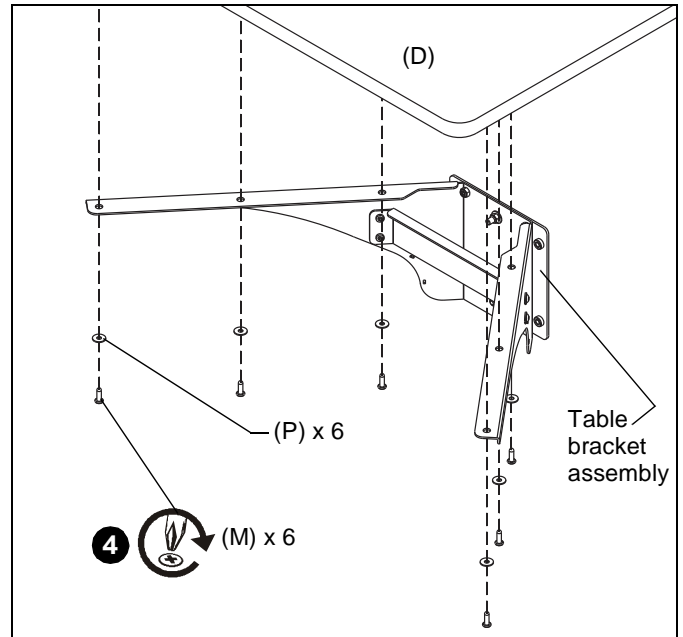

Figure 3
4. Fasten the table top (D) to the table bracket assembly using six #10 x 5/8" Phillips wood screws (M) and six #10 washers (P) into the pre-drilled holes. (See Figure 3)